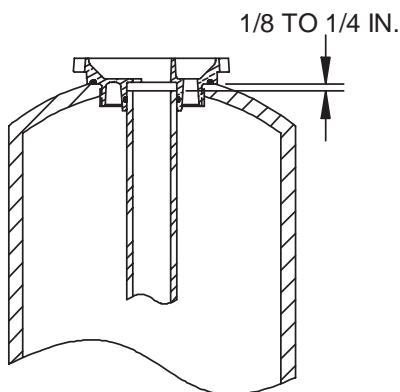

Figure 5
3. Install the tank adapter O-ring. Make sure the riser pipe is 1/8 to 1/4 inch below the top of the tank, Figure 5.